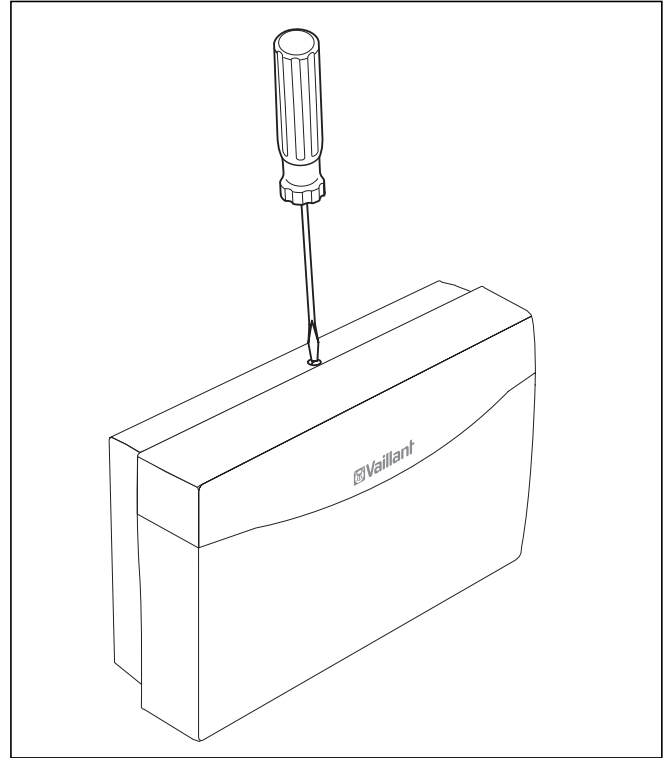

Fig. 5.1 Opening the casing
- ⇒ Mark the two fixing points at a suitable position in accordance with the fixing openings (1).
- ⇒ Screw the casing cover in position in accordance with Fig. 5.1.